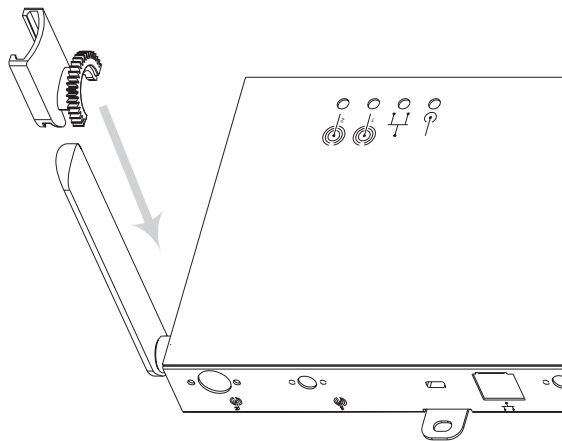

Figure 10: Antenna Shroud Installation
- 10 Attach the plastic cover -Attach the optional plastic cover to the box, see Figure 10: Plastic Cover Installation on page 17. After the cover has been secured push on each antenna to make sure is shroud is locked in position. This ensures that the teeth on the shroud are engaged with the teeth on the cover.
Attach the plastic cover -Attach the optional plastic cover to the box, see Figure 10: Plastic Cover Installation on page 17. After the cover has been secured push on each antenna to make sure is shroud is locked in position. This ensures that the teeth on the shroud are engaged with the teeth on the cover.